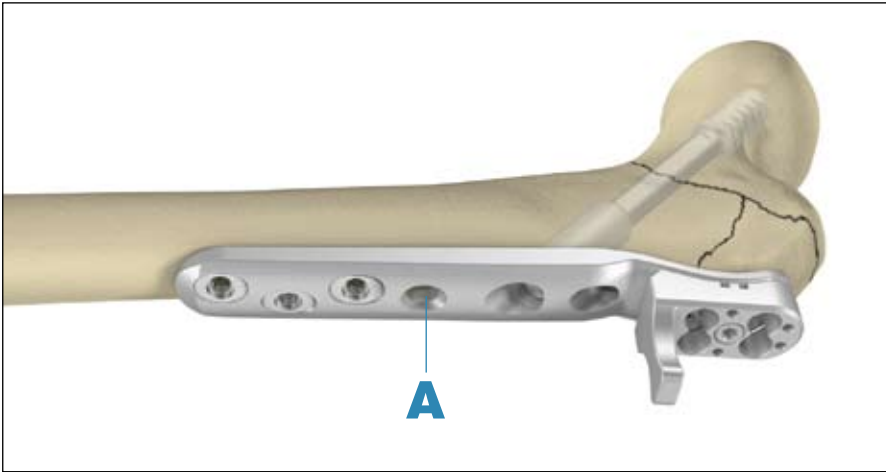
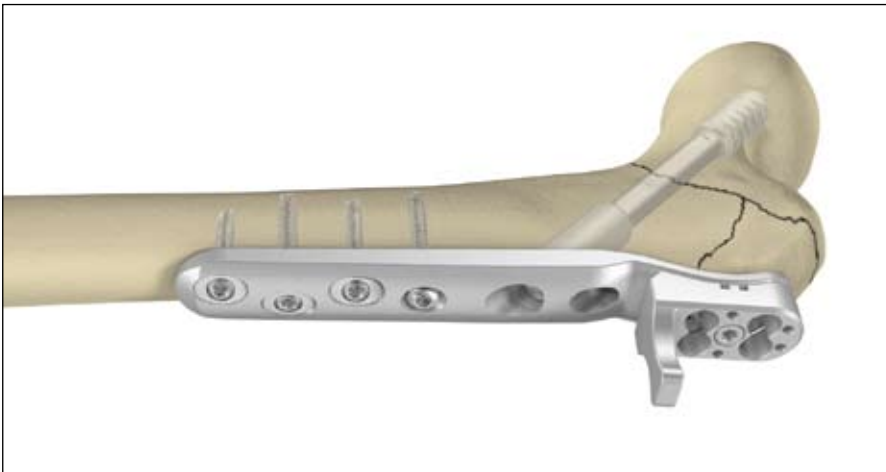

Fig. 5: Fixation of the Omega3 Trochanteric Stabilizing Plate to the femoral shaft. The hole (A) should be filled first with a standard 4.5 Cortical Screw.
Fig. 6: Shaft holes with a 4.5mm Cortical Screw and locked with a maximum of three 5.0mm Locking Screws for optimal fixation along the femoral shaft.
Fixation of the Omega3 Trochanteric Stabilizing Plate to the femoral shaft is performed before any screw is inserted into the spoon section (proximal end of the plate). Use a Standard 4.5mm Cortical Screw in the first hole (A in Fig. 5) of the shaft of the plate.
**Note:** This first hole (A in Fig. 5) does not accept a Locking Insert and Locking Screw. Before drilling and inserting this first screw make sure that the plate is in line along the femoral shaft. If necessary check with the image intensifier from medial to lateral (ML).
Then all holes distal to the placed Cortical Screw (in hole A in Fig. 5) are filled either with standard Cortical Screws or Locking Inserts with 5.0mm Locking Screws for axial stable fixation in the shaft (Fig. 6).